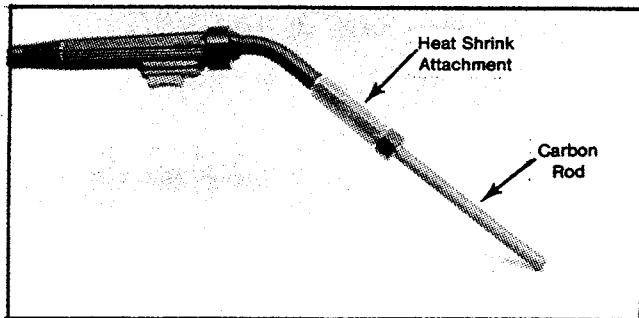

Figure 34
1. Remove the gas nozzle from the gun and attach the carbon rod to the supplied attachment. See Figure 34